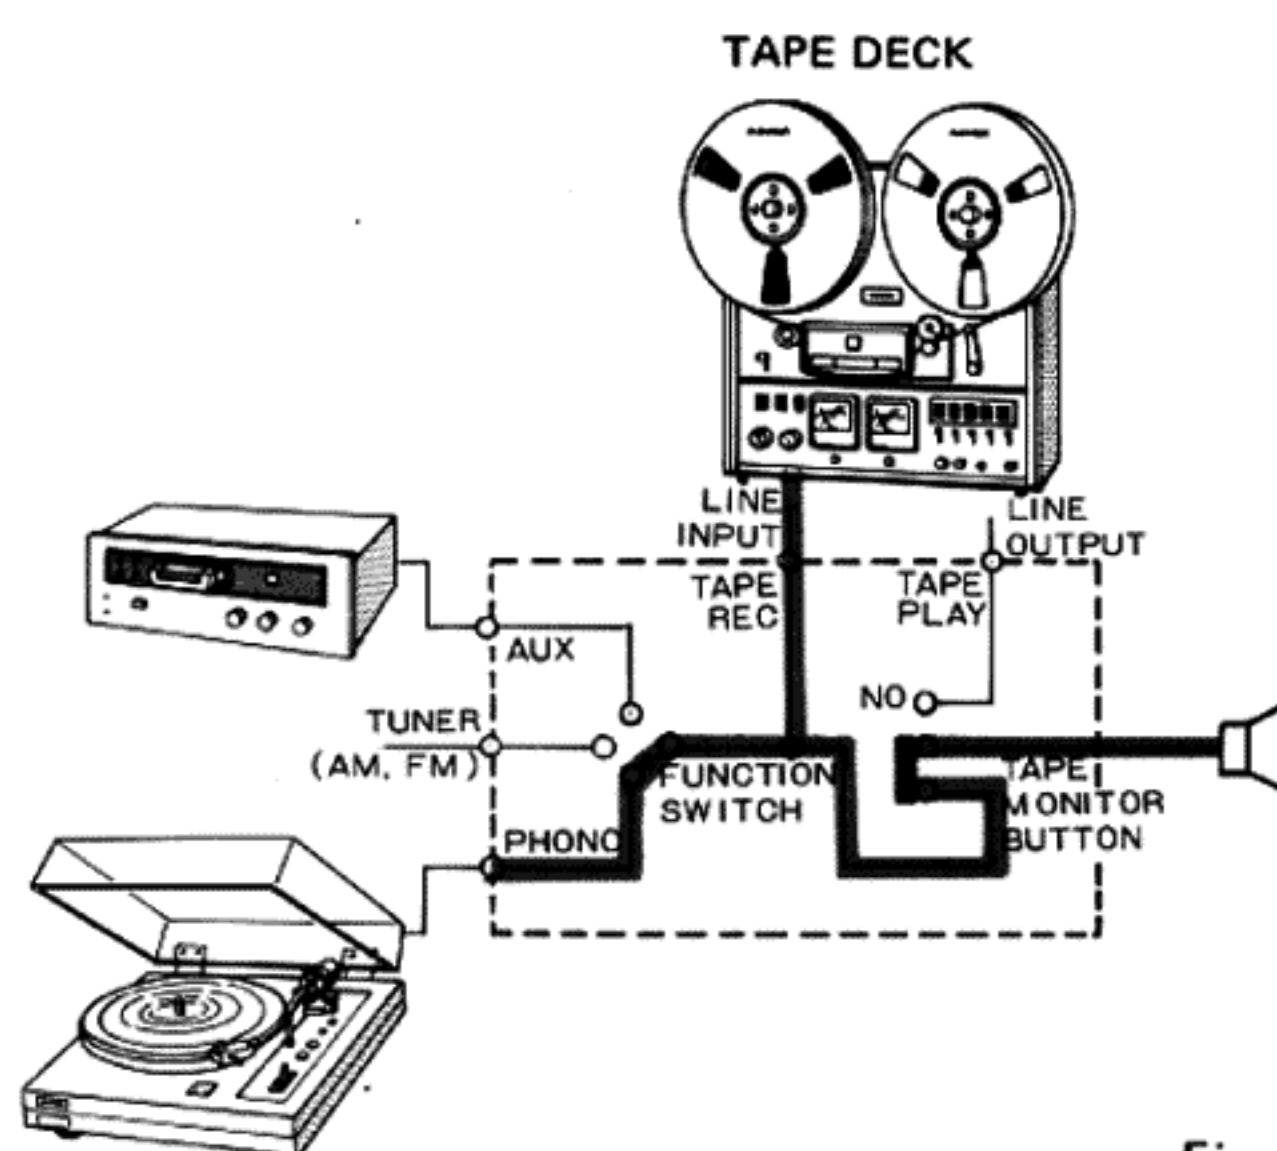

Fig. 12
1. Set the FUNCTION switch according to the source to be recorded. See Fig. 12.